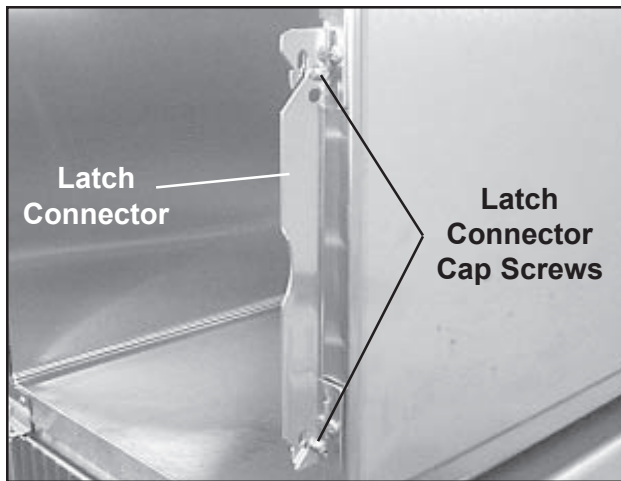

Figure 32. Removing the Latch Connector
4. With a Phillips screwdriver and a 7/16 in. wrench, remove the cap screws that hold the latch connector to the L-brackets, and remove the latch connector from the cage (Figure 32).